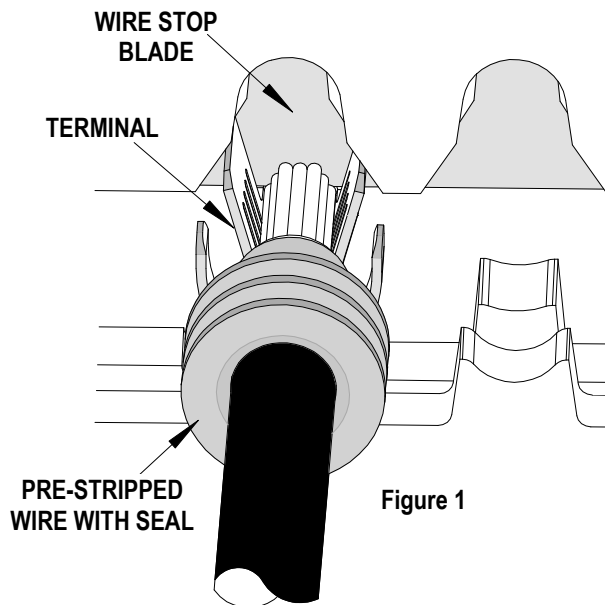

Figure 1
4. Slide the pre-stripped wire with the seal into the wire stop blade. See Figure 1.